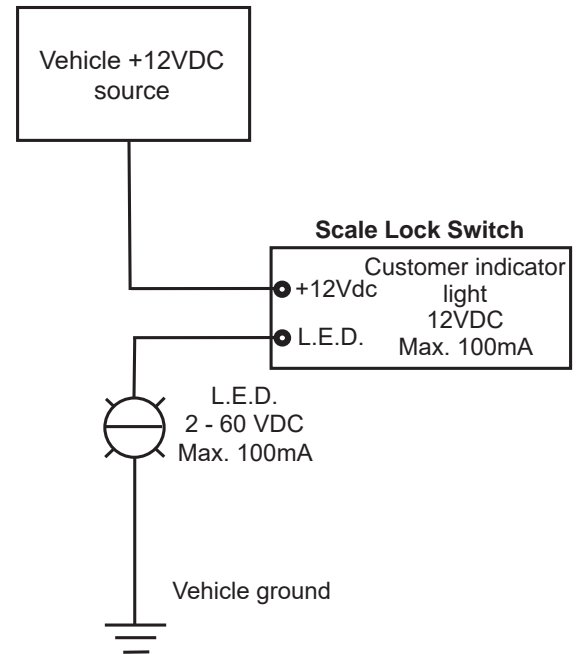

Figure 2
1. It is recommended to install an L.E.D. light that is rated for 2-60 Vdc and a maximum current draw of 100mA. See Figure 2.